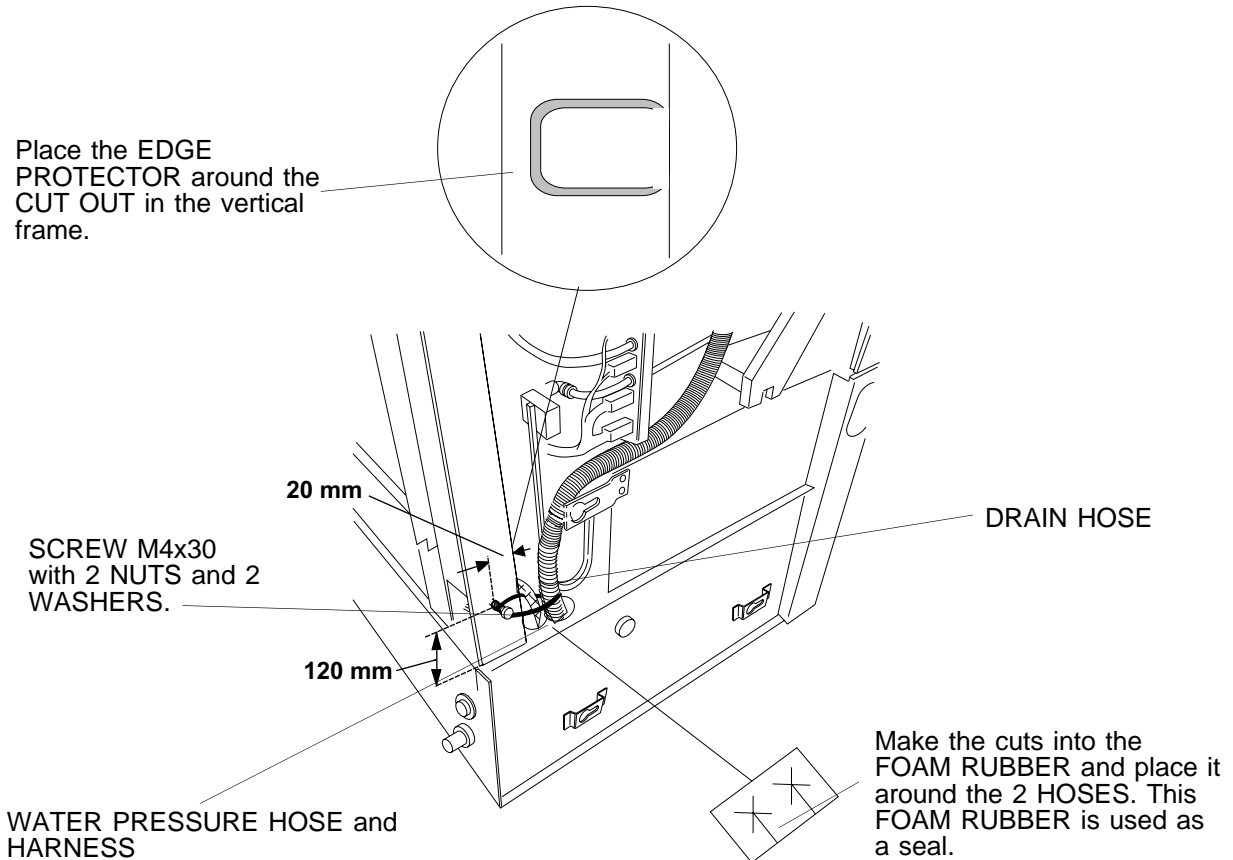

figure 2-14
- 30.** Place the GROMMET STRIP at the hole for the WATER PRESSURE HOSE. The GROMMET STRIP prevents the WATER PRESSURE HOSE from being cut. See figure 2-14.
34. Drill a hole 5 mm into the FRAME and mount the SCREW M4x30 with 2 NUTS and 2 WASHERS. Fix the DRAIN HOSE with a WIRE TIE to this SCREW. This ensures that the DRAIN HOSE does not come in contact with moving parts. See figure 2-14.